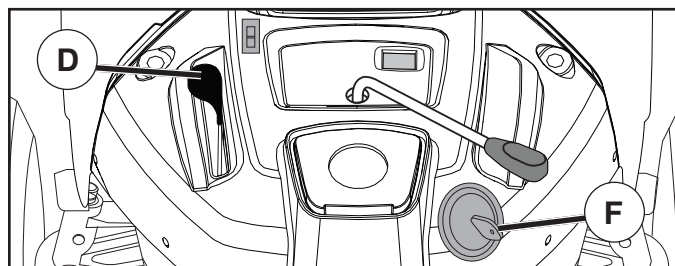

Fig. 10
TO USE THROTTLE CONTROL (D) (See Fig. 10)